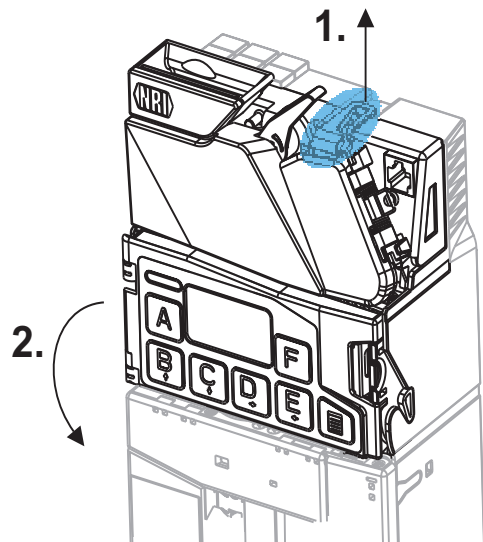

Fig. 4: Swiveling out coin validator
- 3** Lift up latch, then swivel out coin validator (fig. 4).